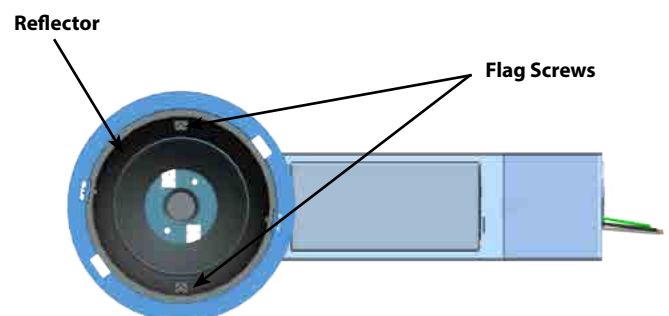

Fig: 3
4. Push up and slide the **Junction Box** section into the ceiling. Be sure the **Mounting Flag** is folded in as the fixture slides through ceiling hole. (Fig. 3)